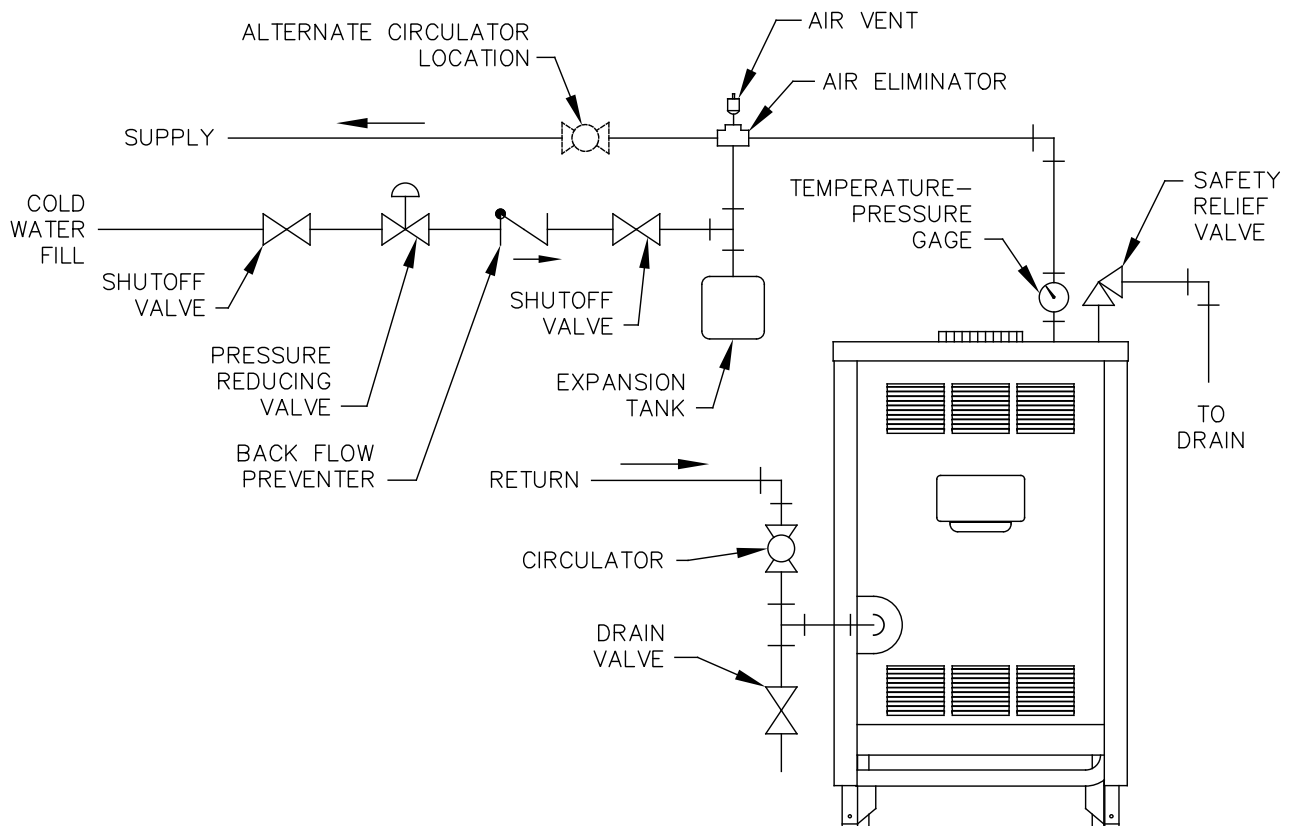

Figure 3.2: Typical Supply and Return Piping
4. Install supply piping, return piping and circulator. See Figure 3.2.
Refer to Figure 3.2 for typical expansion tank piping.